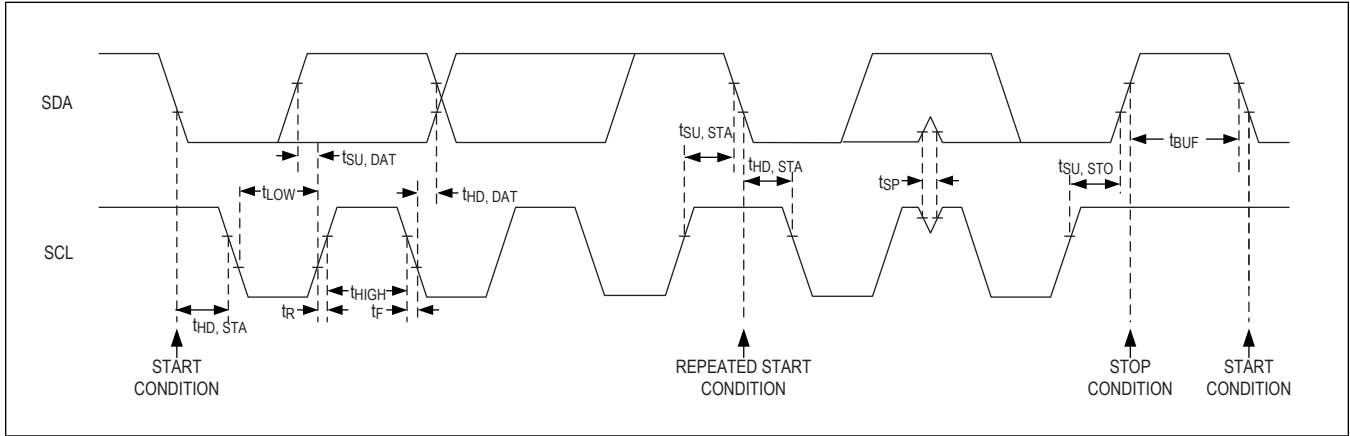

Figure 17. Detailed I²C Timing Diagram
The I²C interface on the MAX86174A/MAX86174B is an I²C-/SMBus-compatible, 2-wire serial interface consisting of a serial data line (SDA) and a serial clock line (SCL). In I²C mode, the SDI/SDA pin operates as SDA and the SCLK/SCL pin operates as SCL. These two pins are used for the communication between the MAX86174A/MAX86174B and the master at clock rates up to 400kHz. Figure 17 shows the 2-wire interface timing diagram. The master generates SCL and initiates data transfer on the bus. The master device writes data to the MAX86174A/MAX86174B by transmitting the proper slave address followed by the register address and then the data word. Each transmit sequence is framed by a START (S) or REPEATED START (Sr) condition and a STOP (P) condition. Each word transmitted to the MAX86174A/MAX86174B is 8-bits long and is followed by an acknowledge clock pulse. A master reading data from the MAX86174A/MAX86174B transmits the proper slave address followed by a series of nine SCL pulses. The MAX86174A/MAX86174B transmits data on SDA in sync with the master-generated SCL pulses. The master acknowledges receipt of each byte of data. Each read sequence is framed by a START (S) or REPEATED START (Sr) condition, a not acknowledge (NACK), and a STOP (P) condition. SDA operates as both an input and an open-drain output. A pullup resistor is required on SDA. SCL operates only as an input. A pullup resistor is required on SCL if there are multiple masters on the bus, or if the single master has an open-drain SCL output. Series resistors in line with SDA and SCL are optional. Series resistors protect the digital inputs from high voltage spikes on the bus lines, and minimize crosstalk and undershoot of the bus